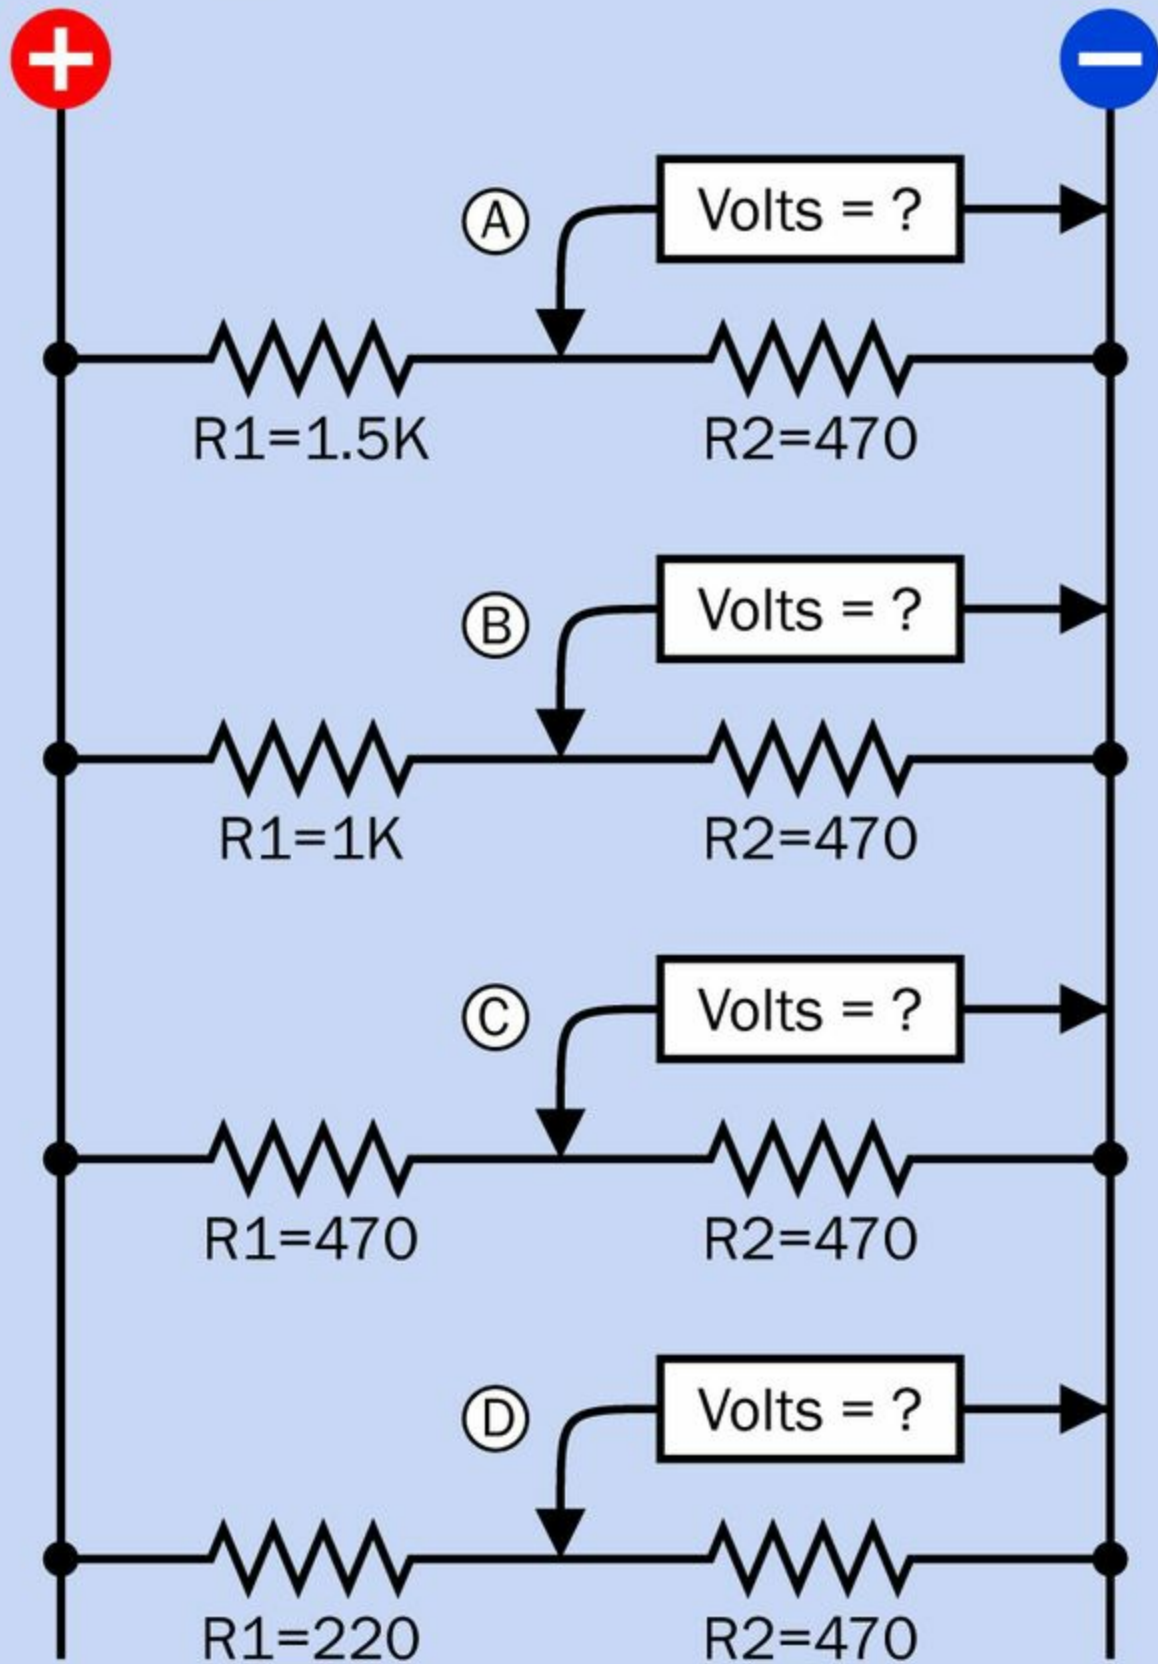

Figure 2-10. The concept of a voltage divider is fundamental in electronics. Make sure that you understand it clearly.
Take a look at **Figure 2-10**. In this schematic, instead of using a transistor in series with a 470 $\Omega$  resistor, I've used various other resistors. Can you predict the voltages that will be measured at points A, B, C, and D? This is an experiment that you can perform for yourself very quickly. I'll provide the theoretical answers at the end of this section of the book.
- $R2$  is the value of the resistor (in ohms) on the negative side (as in **Figure 2-10**).